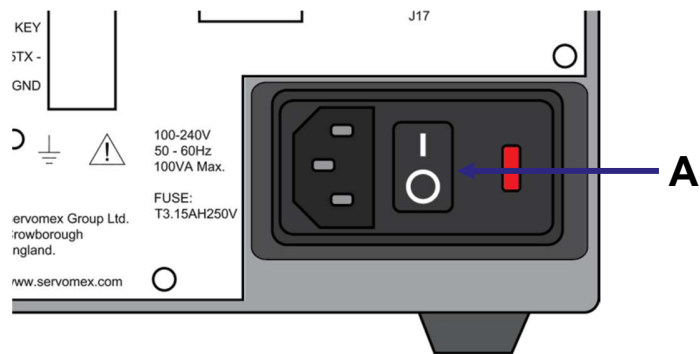

Figure 5-2: On/Off switch on the rear of the analyzer, (A) points to the Power Switch “I” for ON position.
2. Press the “I” on the On/Off switch on the rear of the analyser (Figure 5-2 A) to power on the analyser.